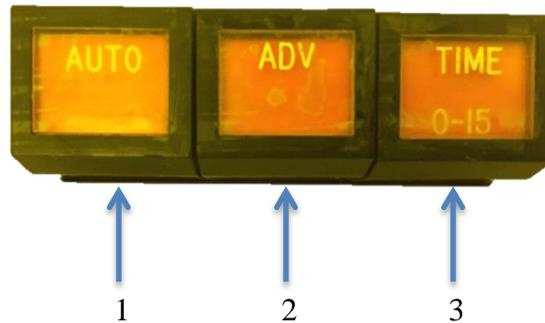

Figure 7: Auto, Advanced, and Time buttons.
- 4.2.5 Push the button labeled Auto/Man so that “Auto” shows on the top – you are now in automatic mode. This SOP assumes you are operating in automatic mode. See Figure 7.